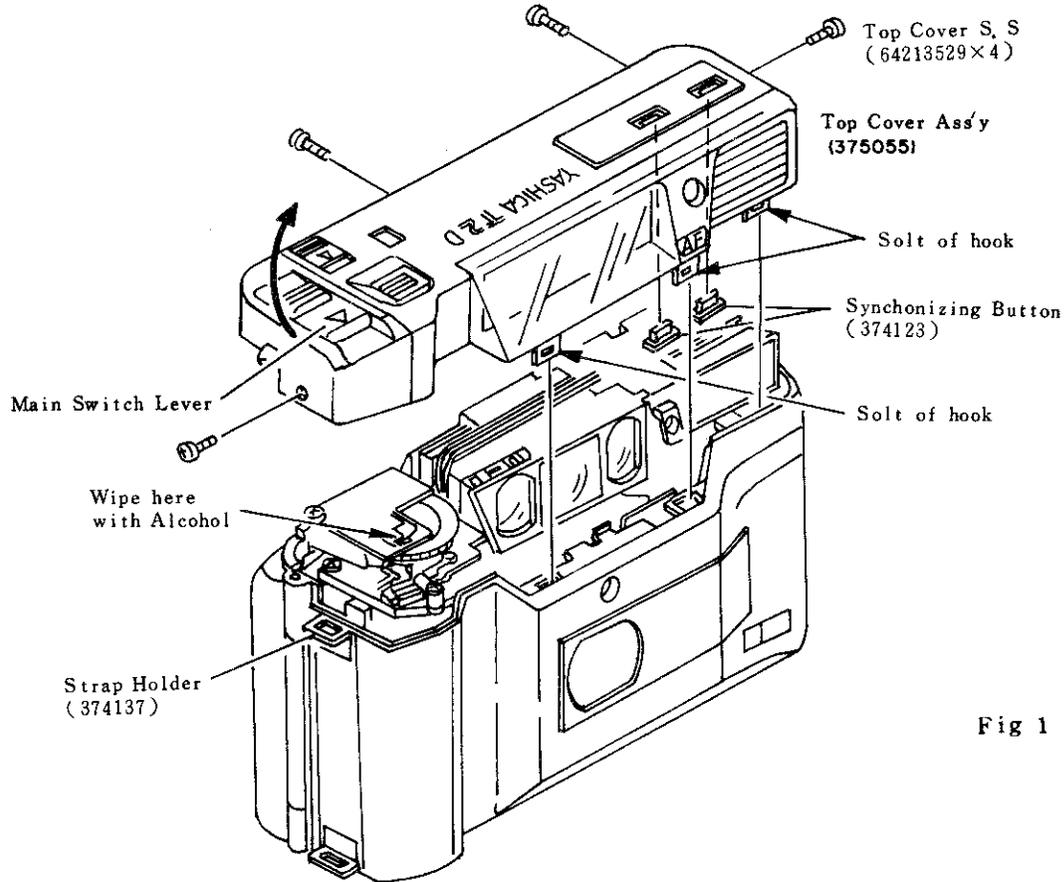

Fig 1
- 2) Disengage the projection on the Front Cover from the slot in the Top Cover and upward to remove the Top Cover Ass'y (375055) in the direction of the arrow as shown in (Fig 1).
- c) Before attaching the Top Cover, clean the pattern side surfaces of the Flash AMP Ass'y (874078) and Self-timer Switch Board Ass'y (874075) with Alcohol as shown in (Fig 1, 2).
- 4) Upward to remove the Front Cover Ass'y (374051) in the direction of the arrow as shown in (Fig 3). And remove Strap Holder (874137).(Fig 1).